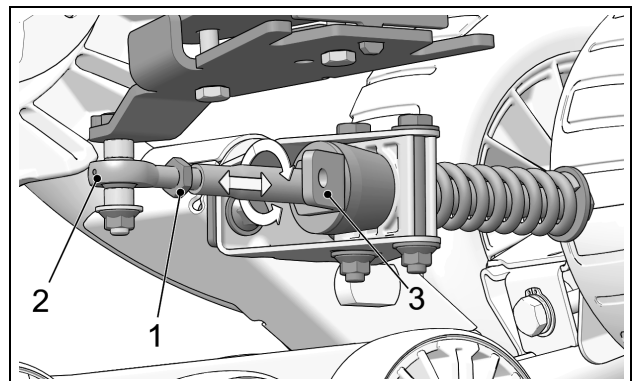

Figure 6
- Loosen jam nut (1). Adjust length of rod end (2) by rotating the steering limiter support plate on (3) the stabilizing arm. Use a 30 mm [1 3/16 in] wrench to rotate support plate to obtain a perfectly centered bubble in the level. Refer to Figure 6.
*NOTE: The stabilizing arms on front Track Systems incorporate a steering limiter support plate (3) which is bent. This plate should be positioned inwards, towards the vehicle.*